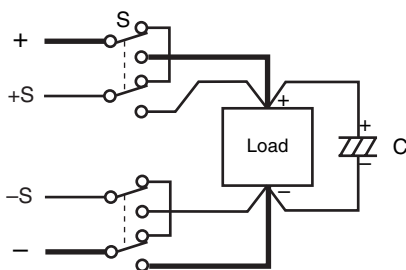

Fig. 4-16 On/off using the mechanical switch
- **To turn on/off the power supplied to a load using a mechanical switch, provide additional switches between the sensing cables as shown in Fig. 4-16 and turn on/off the power and remote sensing cables simultaneously. Be sure to turn off the OUTPUT switch or POWER switch before turning on/off the mechanical switch.**
If you are using a mechanical switch that is inserted between the PWR and the load to turn on/off the connection between them, insert a switch also in the sensing cable as shown in Fig. 4-16 and turn on/off the load wire and the sensing cable simultaneously. Be sure to turn off the OUTPUT switch or POWER switch before turning on/off the mechanical switch.